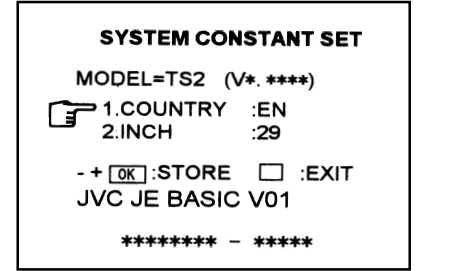

Fig.2
- 3) While the SERVICE MENU is displayed press the INFORMATION key and MUTE key simultaneously, and the SYSTEM CONSTANT SET screen of Fig. 2 will be displayed.